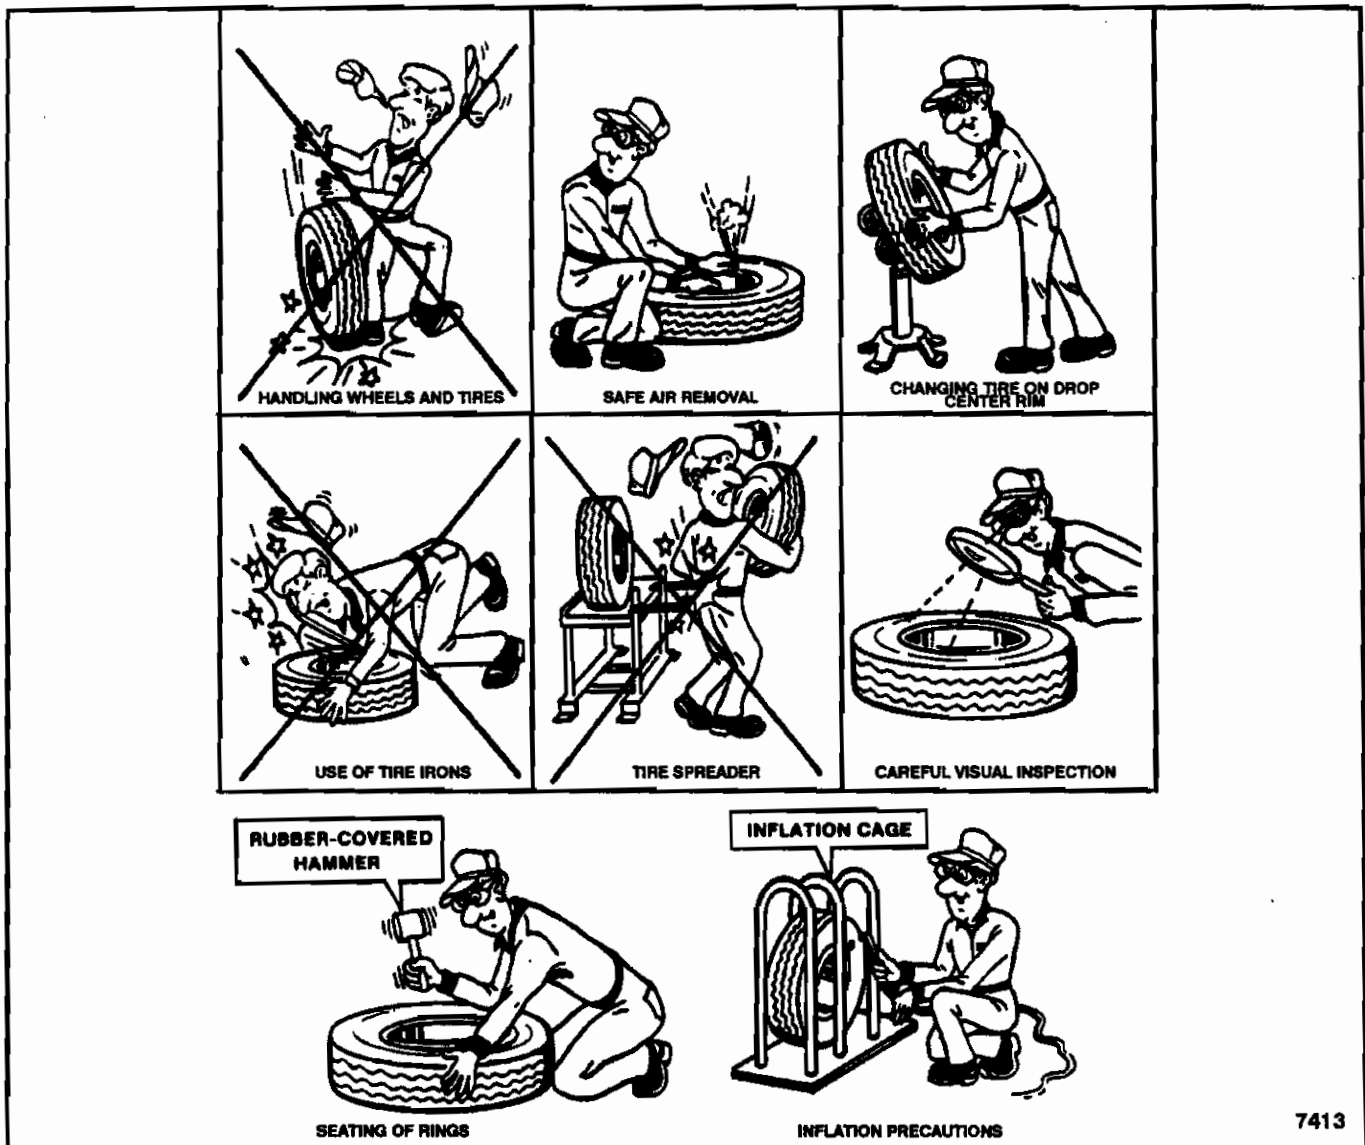

Figure 2. Safety Precautions
1. Prepare for any tire repair operation in a proper way. In servicing tires, be careful not to drop them on the feet, hands or body, or heavily on the floor. Practice proper lifting methods. When carrying tires or wheels, avoid oil and objects on the floor. Keep the floor clean and dry (Figure 2).